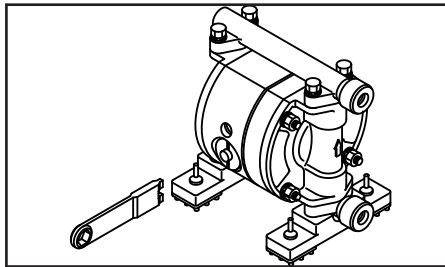

Figure 30
- Remove the cap using special tool 771132 (See Figures 30 & 31).